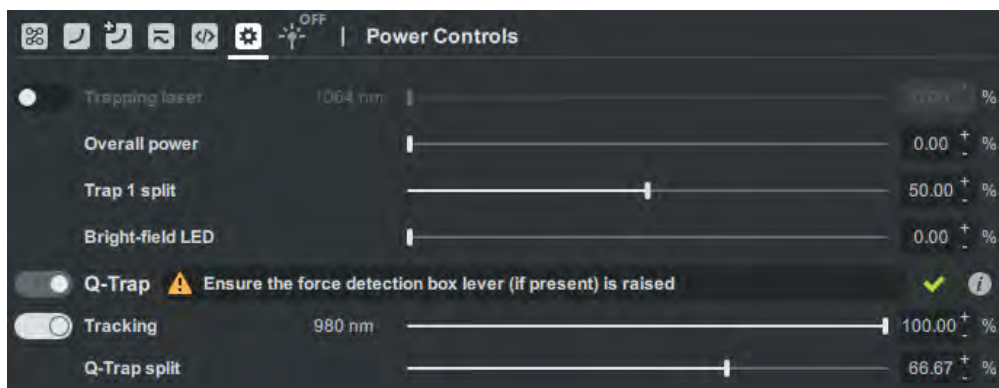

Figure 11.15.1: Figure: Switching to Q-Trap mode in the Power Controls panel.
1. Switch on Q-Trap mode using the **Q-Trap** toggle in the **Power Controls** tab in Bluelake (see Figure 11.15.1).